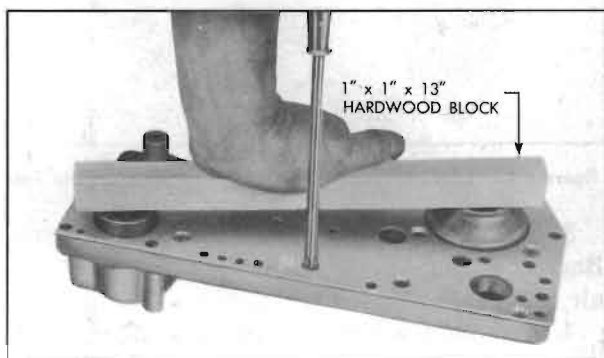

Figure 4-99—Removing Servo Body Spacer Plate
2. Remove servo body spacer plate attaching screw at reverse servo which is in line with the low servo then place a 1"x1"x13" wooden block across the low and reverse servo spring seats. See figure 4-99.
4. Install a *new* spacer plate gasket and place spacer plate in position over spring seats. Place a 1" x 1" x 13" wooden block across spring seats to compress the springs while installing the spacer plate screws (fig. 4-99). Tighten screws uniformly to avoid distorting spacer plate.